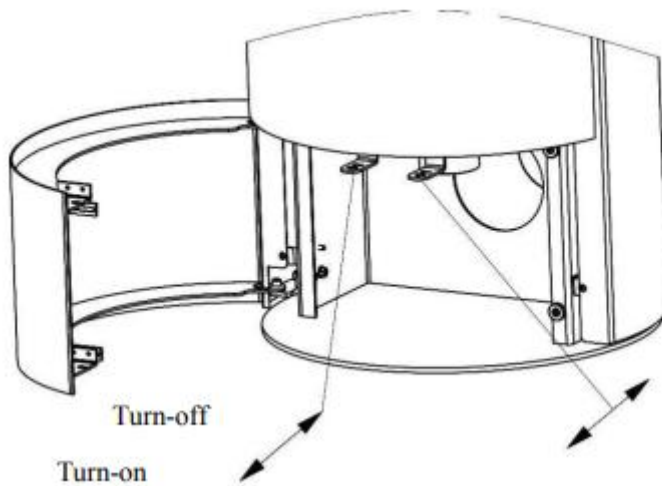

Fig. 9
3. After the wood is completely ignited, after about 2 minutes, close the valve appropriately according to the direction of the arrow, depending on the need, as shown in fig 9